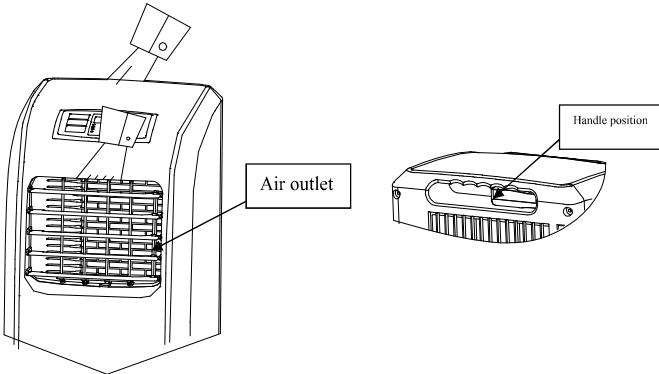

Figure 19
(1). To handle or move the unit, hold the top of the air outlet of the front shell with one hand and the handle position at the top of the back shell with another hand, and leave the unit in the upright position. (As shown in Figure 19).